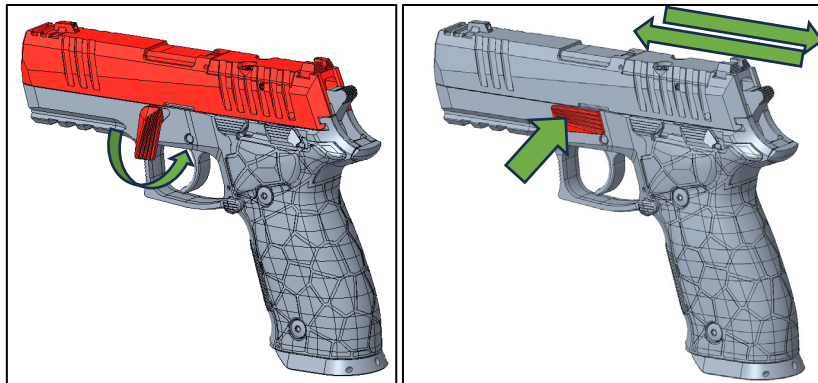

Figure 38:
6. Pull the slide back until the barrel stops moving and the slide is aligned with the frame. Rotate the disassembly lever counterclockwise to its horizontal position and **push it in** (Figure 38).